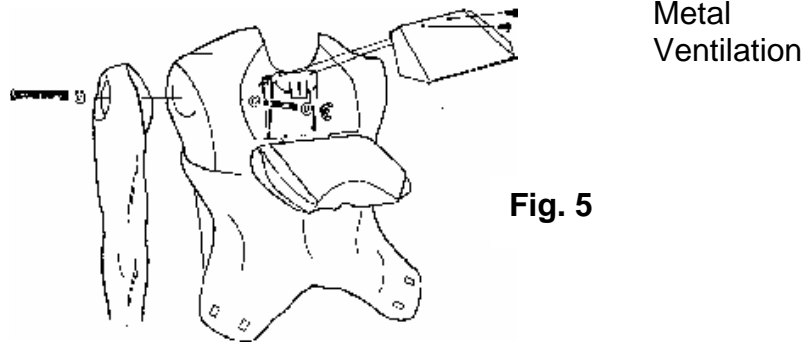

**Fig. 4**
5. Lift flesh colored ventilation cover and spread airway over metal compression plate. (Figure 4)